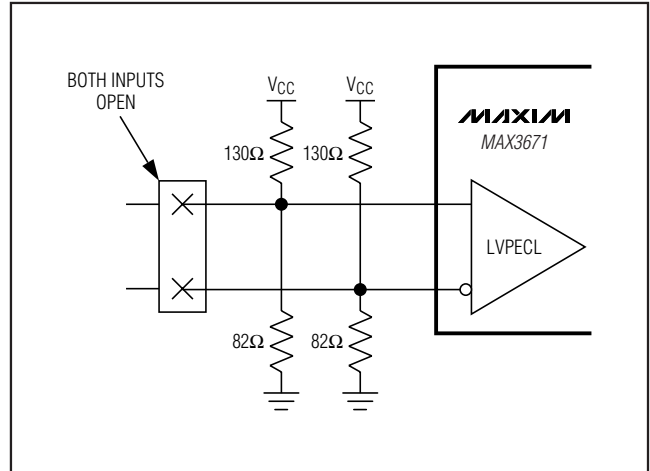

Figure 3. Positions for Open-Circuit Detection
- Both inputs ($\overline{REFCLKx}$, $\overline{REFCLKx}$) are disconnected from the source and have 130Ω to V_{CC} and 82Ω to GND at each input. See Figure 3.